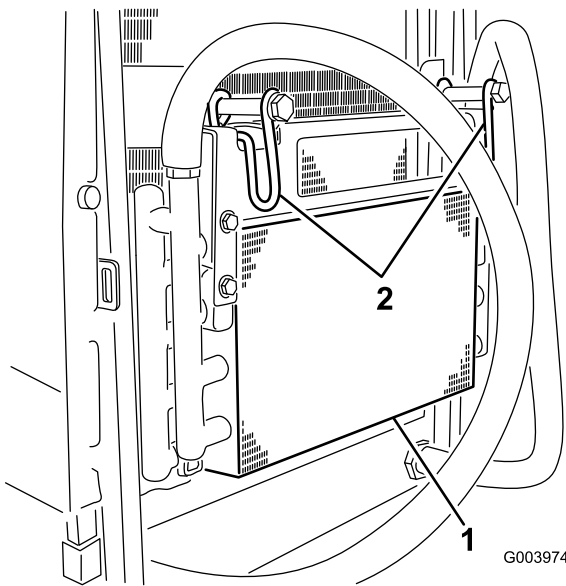

Figure 63
5. Pivot the latches inward to release the oil cooler (Figure 63).